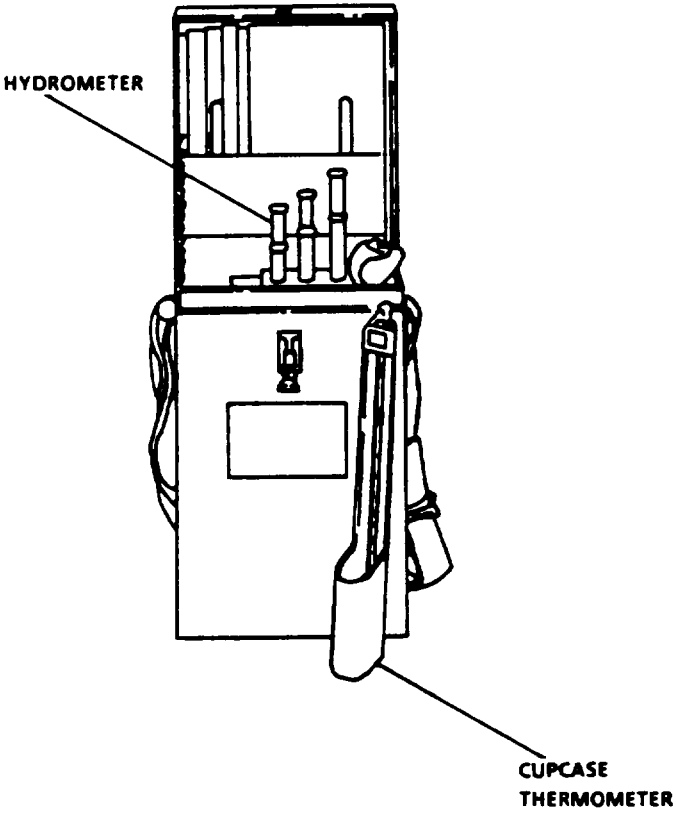

Figure 2-10. Sampling and Gaging Kit Indicators
- i. Sampling and Gaging Kit Controls and Indicators. Figure 2-10 and Table 2-10 list the indicators in the sampling and gaging kit.